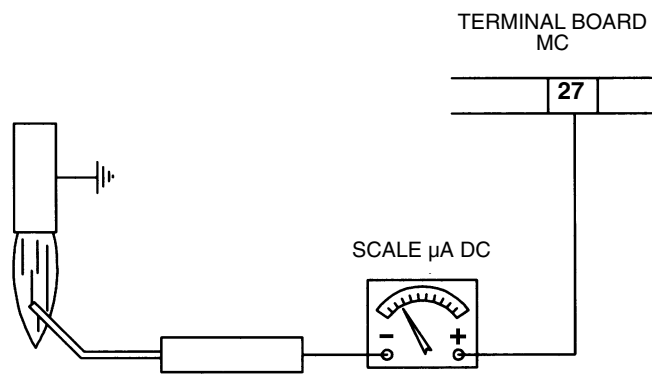
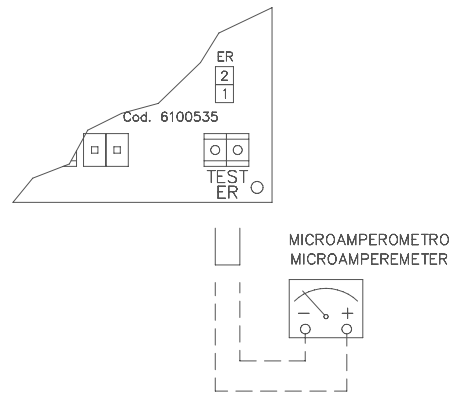

Fig. 38
Fig. 39
- Check the detection electrode, clean, adjust and, if necessary, replace; in case of doubt, check the detection circuit following the diagram in Fig. 38 and Fig. 39, after turning the burner back into operation.
To measure the detection signals refer to the diagrams in Fig. 38 and Fig. 39. If the signal is less than the indicated value, check the position of the detection electrode, the electrical contacts and if necessary replace the detection electrode.
To check the detection current, remove the jumper between terminals and connect the microammeter (see Fig. 39).